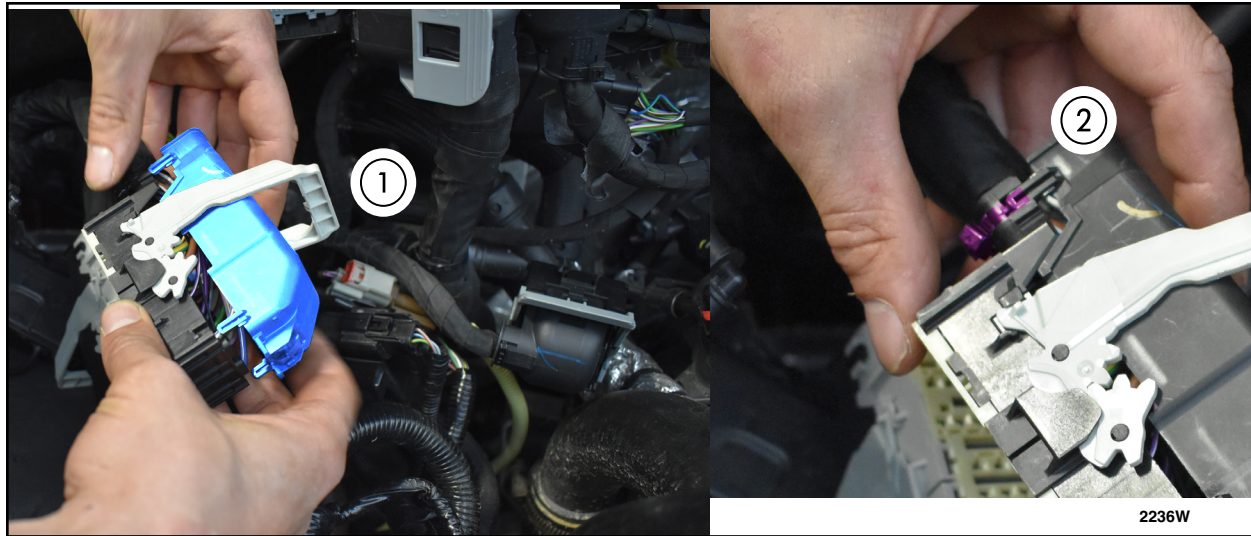

FIGURE 29
35. Remove back shell and cut zip-tie from 50-way black connector (C1035B). See Figure 29.